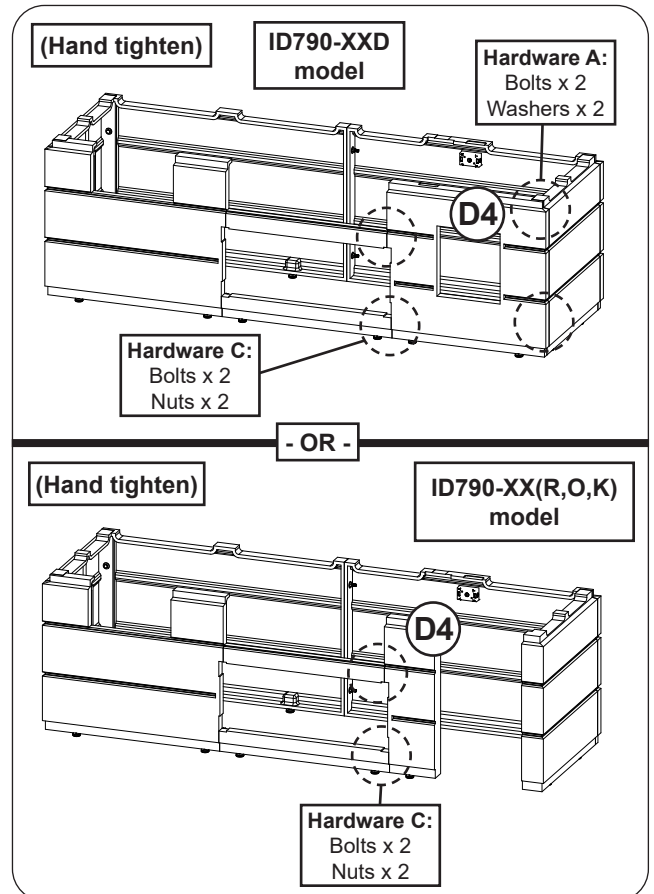

Fig. 9-3 Assemble front wall (right piece)
4. **ID790-XXD models:** Position the right front wall piece (D4) and repeat the hardware installation process to fasten it to the right side wall (hardware kit A), and then to the beams (hardware kit C). Hand tighten only. See Fig. 9-3.
ID790-XX(R,O,K) models: Position the right front wall piece (D4) and repeat the hardware installation process (hardware kit C). Hand tighten only. See Fig. 9-3.